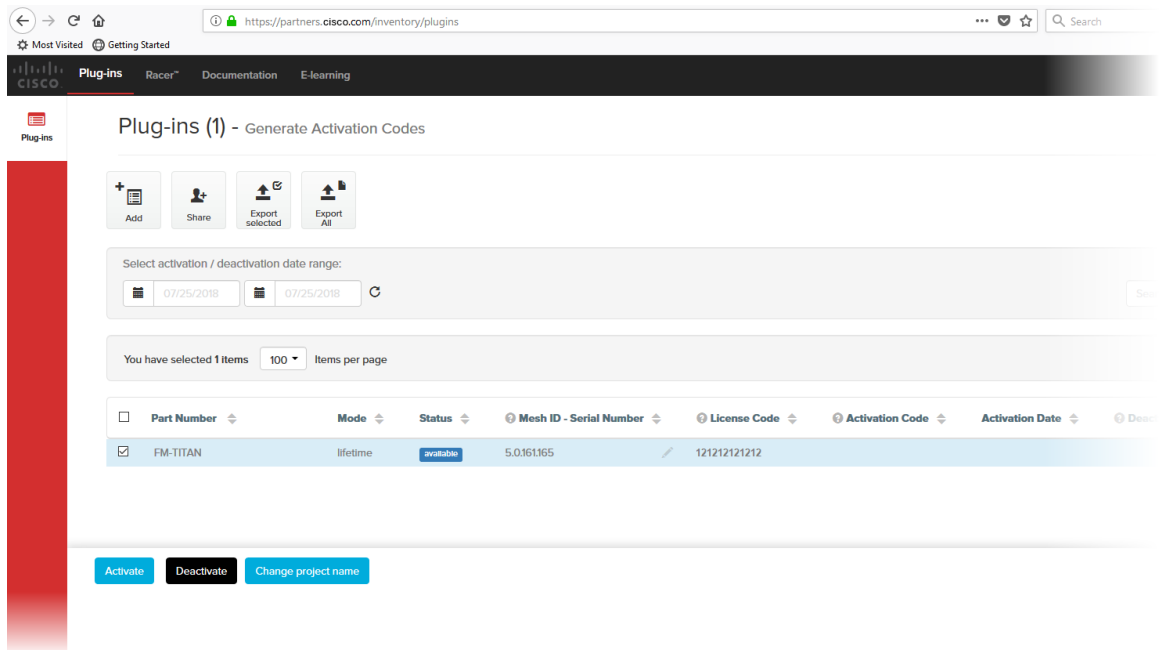

Figure 65. Partner Portal Plug-ins page (License code plug-in)
- When you purchase a generic 16-digit *License code*, the License code and corresponding plug-in will be listed on the Plug-ins page (Figure 65 \(page 145\)).